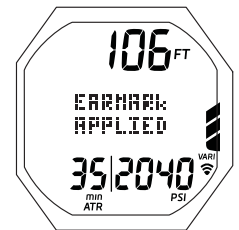

Fig. 108C - GAUG DIVE MAIN
- M (< 2 sec) - to apply a snapshot Earmark to the PCI data recorded at that time. *The graphics EARMARK APPLIED will be displayed in place of the Timer and EDT for 3 seconds (Fig. 108C).*